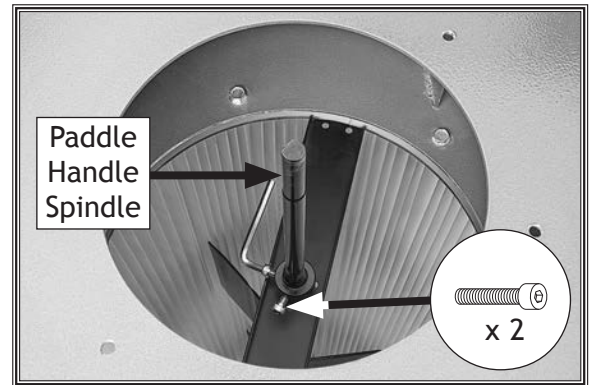

Figure 63. Separating paddle handle spindle from filter paddle spindle.
5. Loosen (2) M6-1 x 16 cap screws on paddle handle spindle to remove (see **Figure 63**).